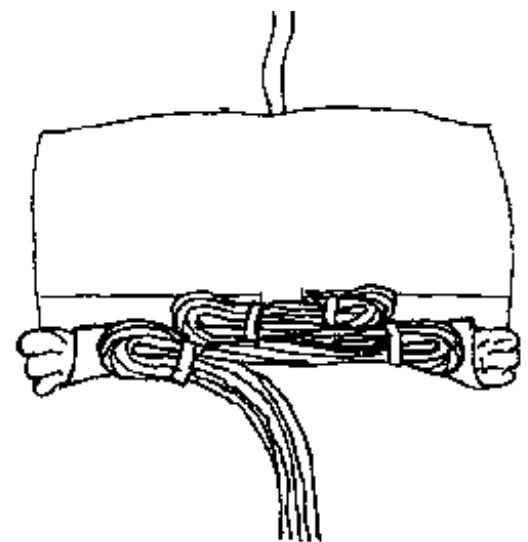

Figure 2-7
Step 12 Make locking stows using the suspension lines to close the mouth of the bag. There are four locking stows. (SEE *Figure 2-7*)